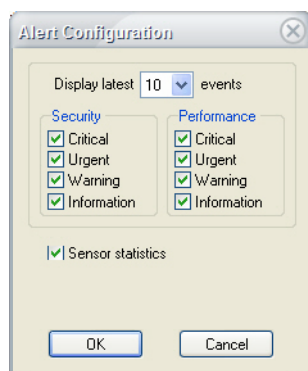

Figure 5-16: Configuring AirMagnet Alert Window
- 1) From the Alert Window, click **Config** (Configuration). The Alert Configuration dialog box appears. See Figure 5-16.